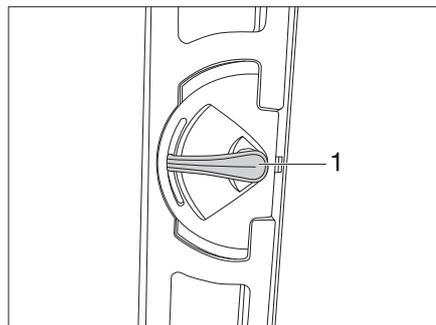
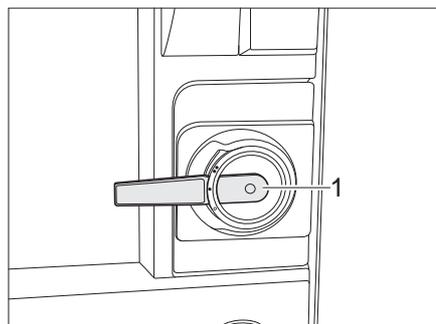

Fig. 21 Variant 1: Door lock of conversion door, inside, open
Fig. 23 Variant 2: Door lock of conversion door, inside, open
- Push the handle (Fig. 21,1 or Fig. 23,1) down.